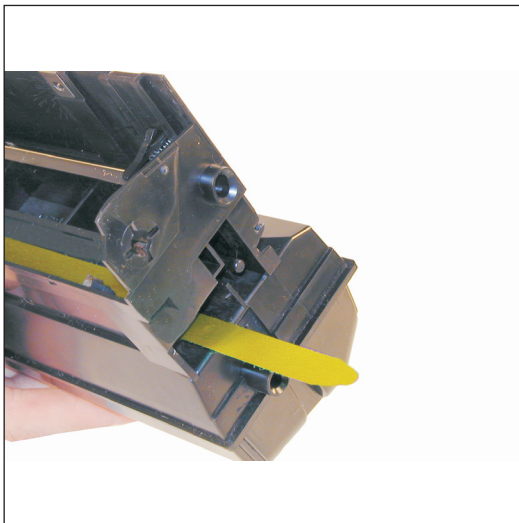

Figure 25
19) Install the seal across the framework, and slide the pull tab out through the slot left by the seal plug. See Figure 25